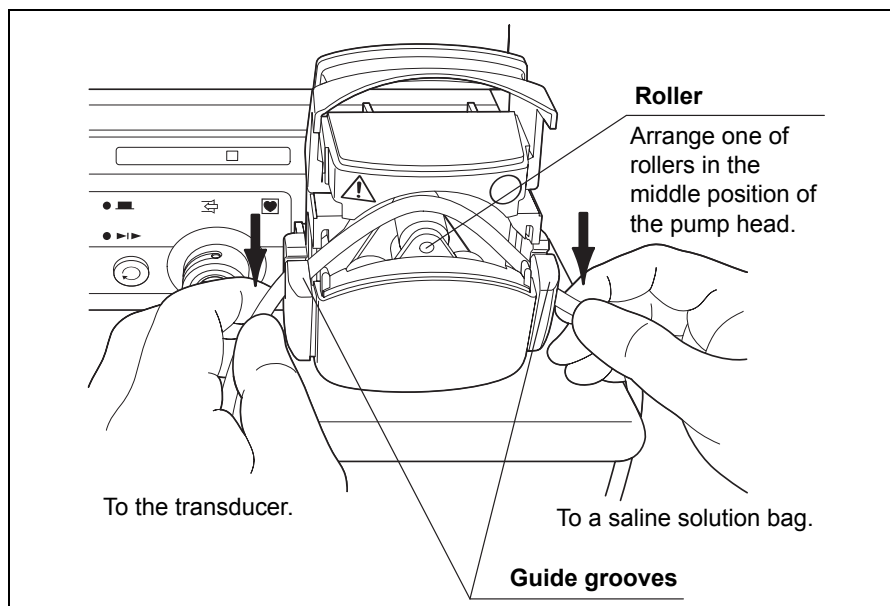

Figure 4.14
2. Manually rotate the roller to align it properly. Then, place the irrigation tube of the irrigation/suction tube for SonoSurg (MAJ-1099) on the roller, and push it into both guide grooves (see Figure 4.14).